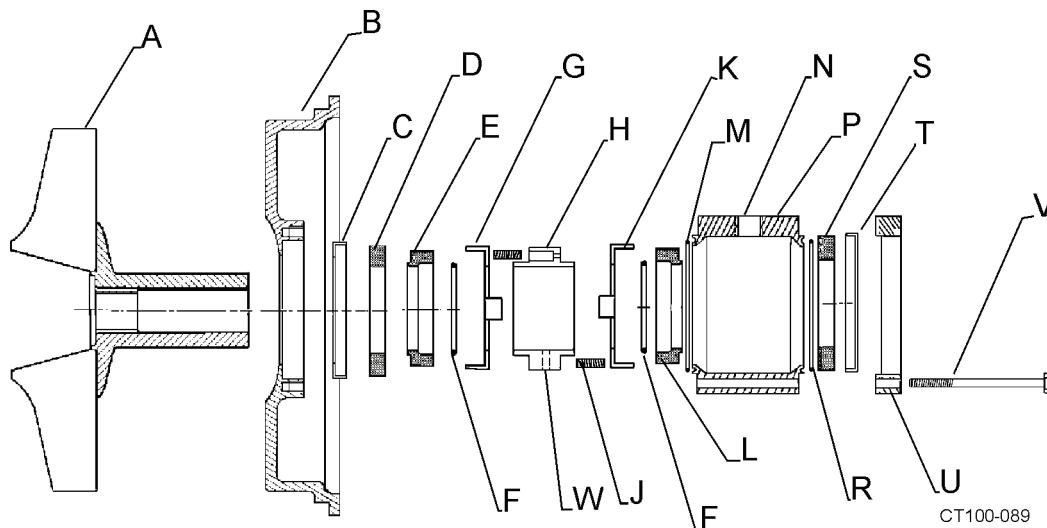

Figure 37 - Type 4 Seal Components
The Type 4 Seal is essentially two Type 1 seals assembled back to back in a chamber which bolts to the backplate in place of the stationary seat retainer. Except for the additional components, (e.g. chamber, seals) Type 1 and Type 4 components are interchangeable. See Figure 37.
Table 15: Callouts for Figure 37
4. Place the impeller assembly **face down** (on impeller vanes) and remove the hex head screws (Figure 37, item V) from the back of the seal assembly.
5. Carefully lift off the seat retainer, o-ring, L-gasket, stationary seal and flush housing (See Figure 37, items P, R, T, S and U).
6. Loosen (2) set screws in the spring retainer (See Figure 37, items W and H).
7. Lift off rotating seal components (See Figure 37 on page 35):
10. Remove stationary seal and L-gasket from backplate. (See Figure 37, items D and C).